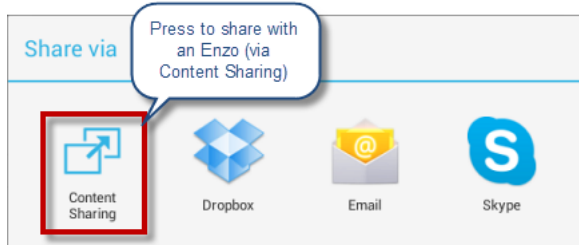

FIG. 122 Application "Share" icon, and Content Sharing icon (as displayed in an Image View page)
- In cases where the application presents a "Share" function as an application-specific feature, "Content Sharing" is often included as an option (FIG. 122). In this case, select *Content Sharing* to share with Enzo.